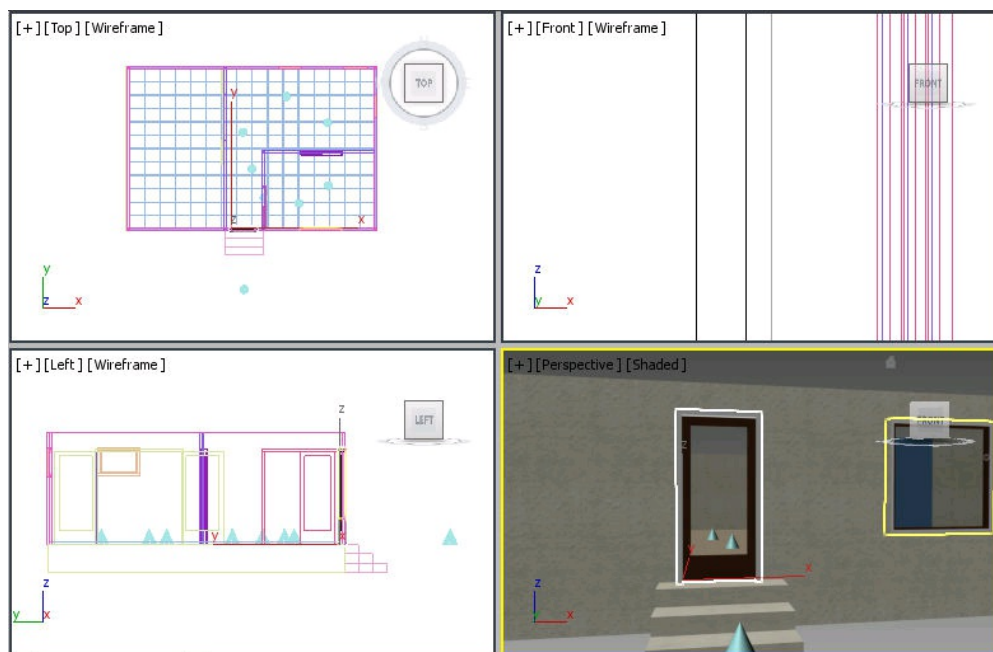

Figure 14-69 The c14_tut3_start file
1. Choose **Open** from the **Application** menu; the **Open File** dialog box is displayed. In this dialog box, browse to the location *\Documents\c14_3dsmax2016_tut* and select the **c14_tut3_start.max** file from it. Choose the **Open** button to open the file, refer to Figure 14-69.